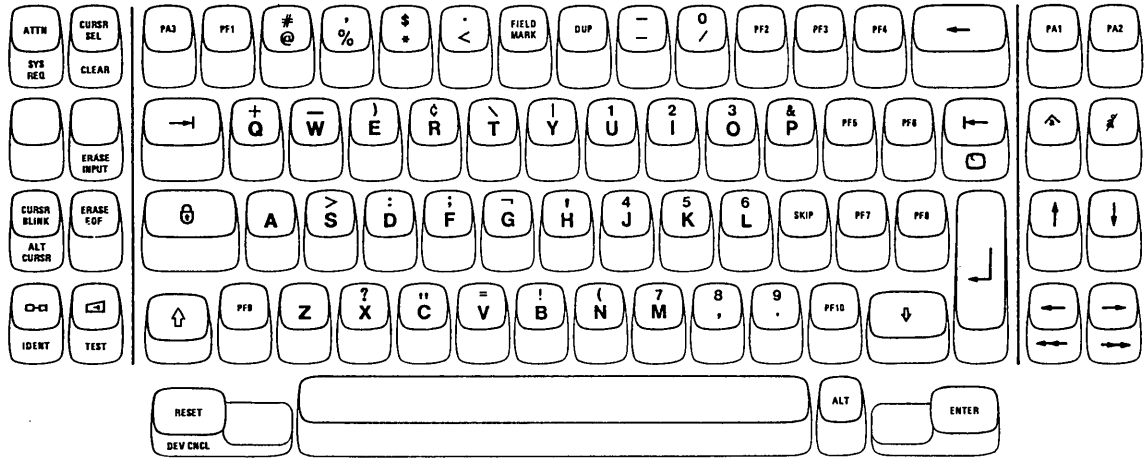

Figure 3-3. Data Entry Keyboard (See Note)
- The Data Entry keyboard (Figure 3-3), which provides the basic data entry type of keyboard